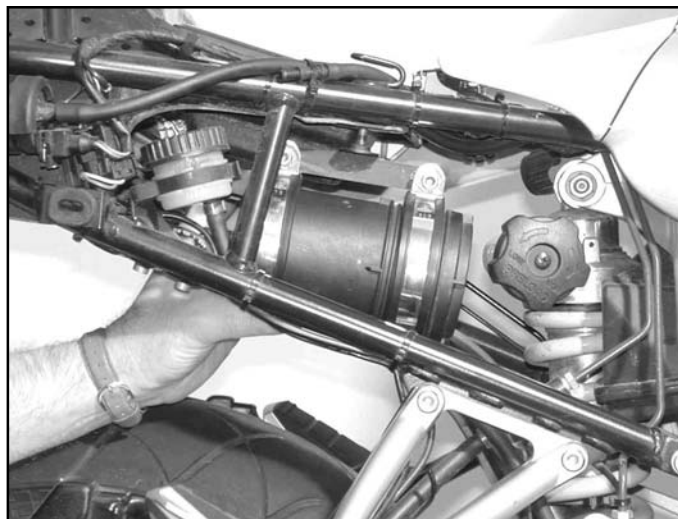

Figure 8
4. Position the Canister, with bracket, inside the sub-frame so the screw from **PREPARATION STEP 8** screws into the threaded tab on the Relocation Bracket. Tighten to 7Nm (5.1 ft. lbs.) See figure 8.